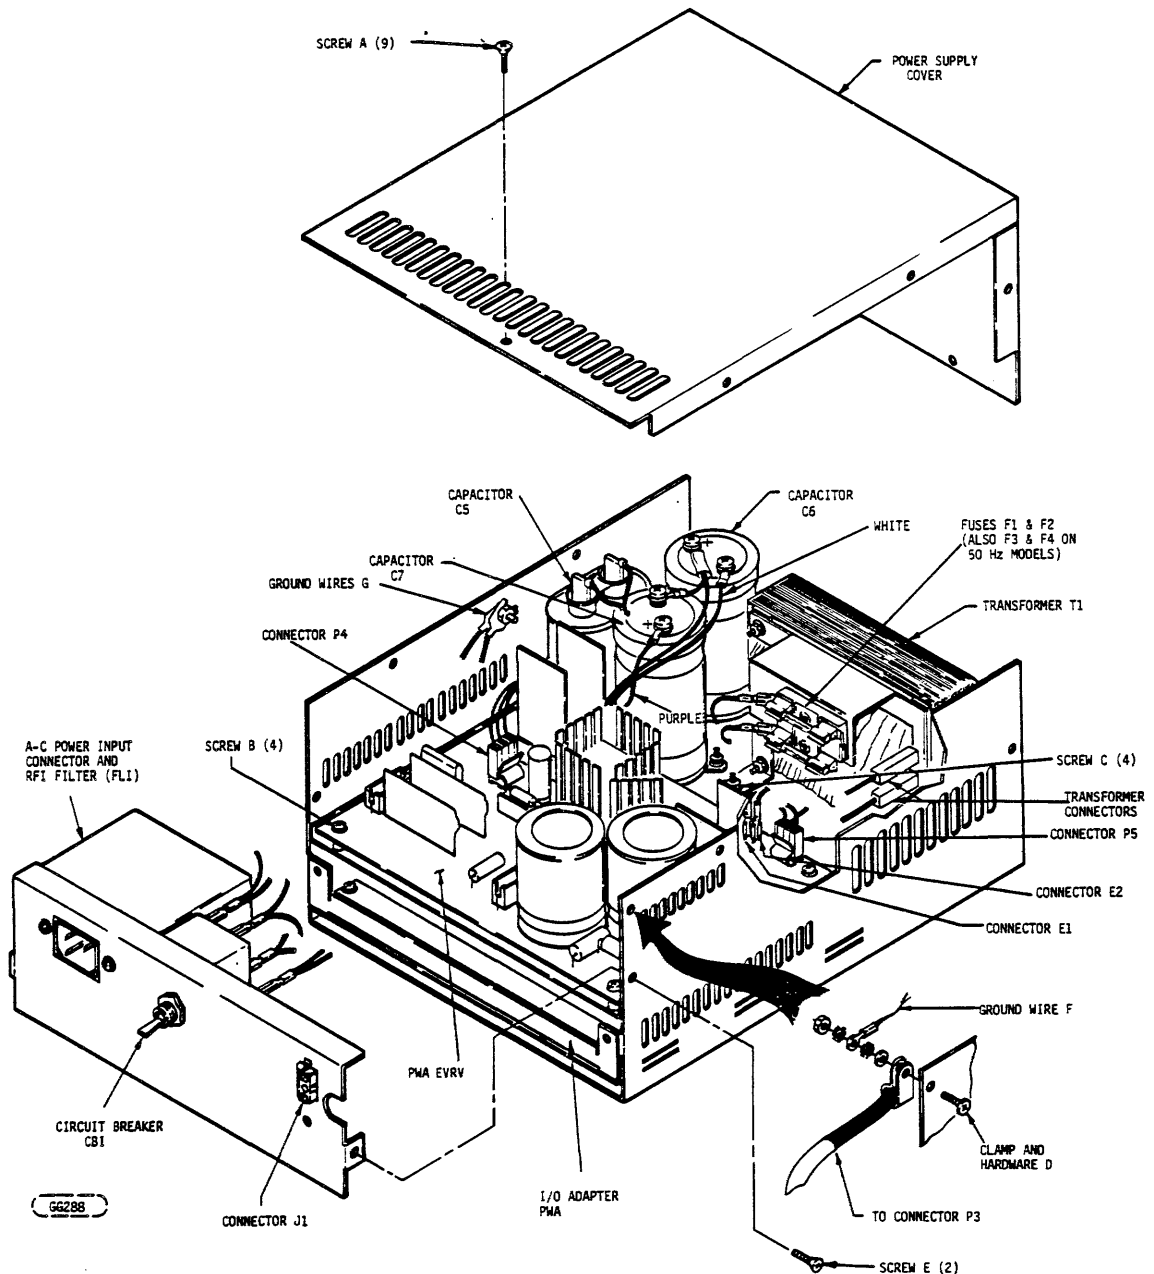

FIGURE 6-1. PIO ASSEMBLY SHOWING REMOVABLE COMPONENTS
3. Refer to Figure 6-1. Remove nine (9) screws (A) around the top and back side opposite the connectors of the cover. Depending on how it is mounted, the "back" of the cover may be used as the front of the PIO, in which case a user attached front cover may have to be removed before the screws along the "back" could be removed to allow removal of the top cover of the PIO.
2. Remove two screws (E) from sides.
4. Remove ground wires (G) from stud on side of unit.
5. Disconnect wires E1, E2 and the two black wires connected to the transformer as shown in Figure 6-1.
7. Refer to Figure 6-1 when re-connecting wiring. Connections of E1 and E2 are interchangeable and so are the two to the transformer. Reverse the preceding steps to replace panel. Make certain that ground wire lugs are installed between two lock washers.
3. Refer to Figure 6-1. Disconnect connectors P4, P5, E1 and E2 from the PWA EVRV.
4. Remove clamp and hardware (C) that secure cable to slide of power supply frame.
5. Remove the two screws (E) securing connector/switch panel and swing panel out of way.
6. Remove the four (4) screws (B) that secure the EVRV PWA and lift PWA out.
1. Remove top cover per 6.4.2.1. Refer to Figure 6-1. Fuses are mounted on a bracket that is mounted on the side of power transformer. 60 Hz power supplies have two fuses; 50 Hz supplies have four fuses.
- f. Remove four (4) screws (C) that secure the transformer to chassis. Remove transformer from unit.
- d. Replace electrical connections. C5 is non-polarized so it doesn't matter which of the removed wires are connected to which terminal. Refer to Figure 6-1 for aid in reconnecting the leads to C6 and C7.